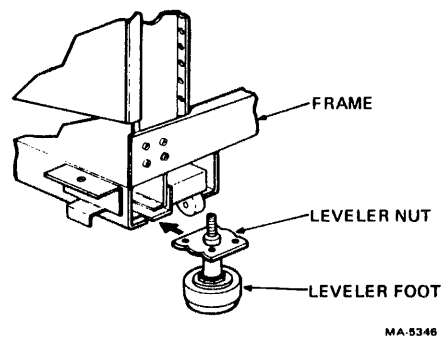

Figure 2-9 H9646 Leveler Foot Locations
1. Assemble the leveling feet and slide them into the slot at the base of the cabinet. The slots are located on the sides (Figure 2-9).